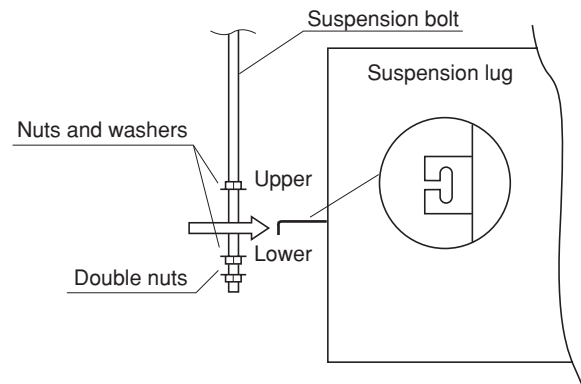

Fig. 3-24
- (2) Thread the 3 hexagonal nuts and 2 washers (field supply) onto each of the the 4 suspension bolts as shown in Fig. 3-24. Use 1 nut and 1 washer for the upper side, and 2 nuts and 1 washer for the lower side, so that the unit will not fall off the suspension lugs.